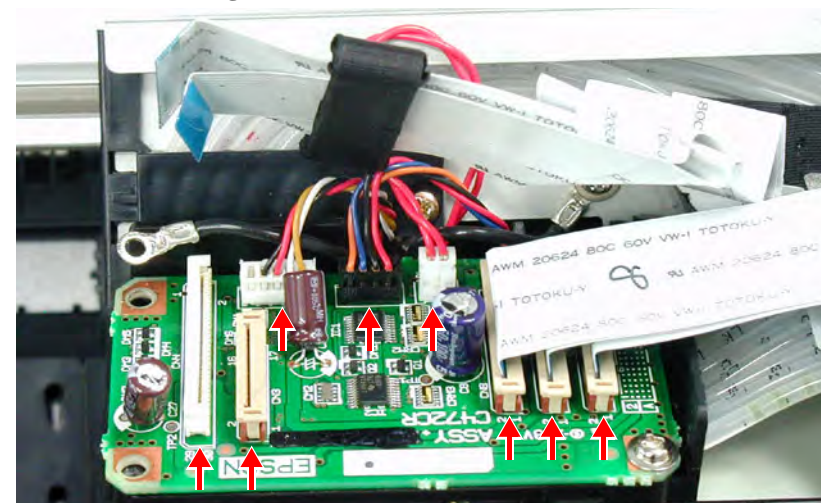

Figure 4-31. CR Board Connectors Disconnection
(See Figure 4-31)
7. Disconnect the following three connectors on the CR Board. (See Figure 4-31)